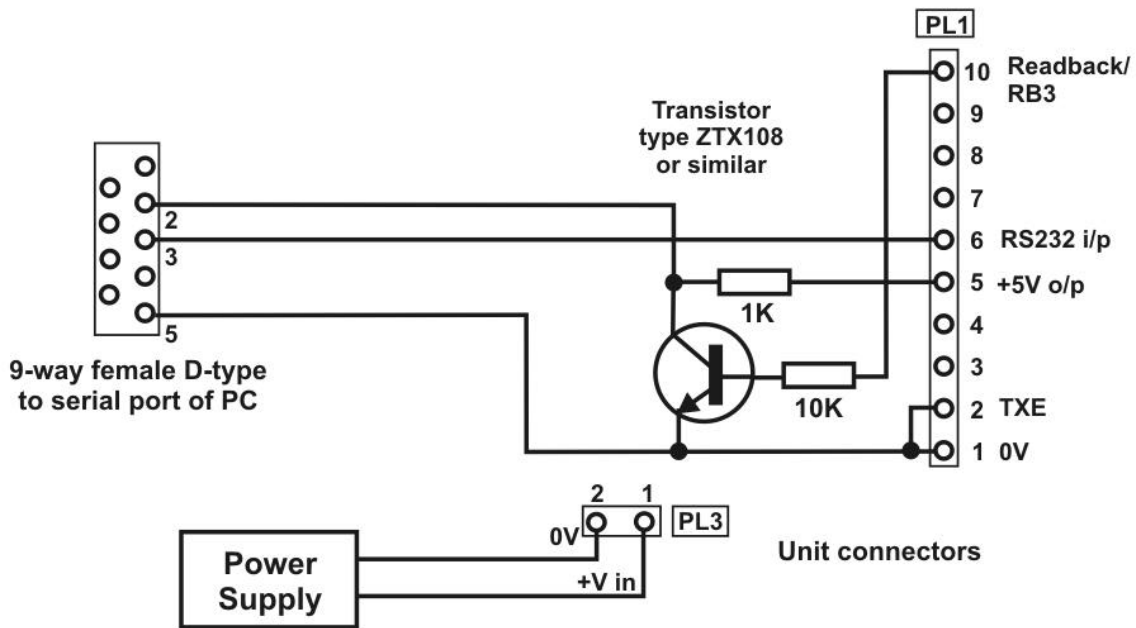

Figure 2 Programming Adaptor
The software supplied with the ST100 transmitter is the STSRn00.exe program. The software can be run on a PC with the serial port connected to PL1 of the ST100 transmitter via a suitable adaptor as shown in Figure 2. If the read-back function is desired, then PL1 pin 10 of the transmitter must be connected to pin 2 of the PC serial port via a buffer circuit. A 1k pull-up resistor to +5V must also be provided as shown.
3. Function F6 (program the unit) is only enabled after the read-back, (refer to Figure 2). This function re-programs the unit connected.